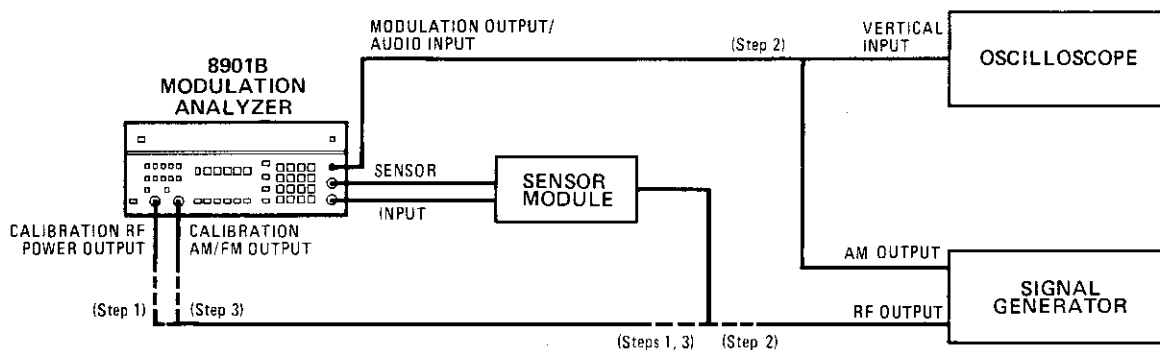

Figure 3-3. Basic Functional Checks Setup
3. Connect the CALIBRATION RF POWER OUTPUT to the sensor module input. (Step 1 of Figure 3-3.)
9. Connect the RF output of the signal generator to the input of the sensor module, and MODULATION OUTPUT/AUDIO INPUT to the vertical input of the oscilloscope and to the AM output of the signal generator using a BNC tee. (Step 2 of Figure 3-3) (Note: The connection from the MODULATION OUTPUT/AUDIO INPUT to both the oscilloscope and the signal generator could cause a loading problem if the signal generator is not as suggested. Make these connections only when required if this is a problem.)
16. Connect the CALIBRATION AM/FM OUTPUT to the input of the sensor module. (Step 3 of Figure 3-3.)
19. Reconnect the equipment as shown in Step 2 of Figure 3-3.